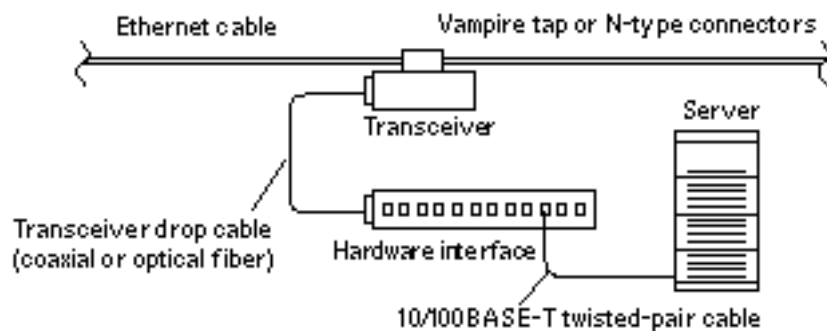

Figure 2-6 Connecting Twisted Pair Ethernet to N-type Coaxial Cable
Figure 2-6 shows a typical arrangement for connecting the system to an Ethernet network.
- If the Ethernet cable lacks N-type connectors at the ends, use a “vampire” tap to connect the cable to the transceiver (Figure 2-6). To connect the cable to the transceiver, use instructions provided with the vampire tap.
Figure 2-6 shows the elements used in the installation process.